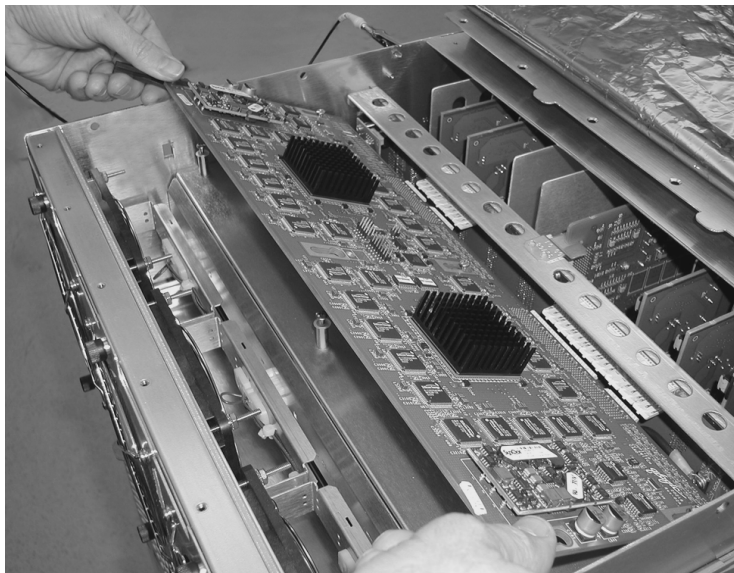

Figure 6-6. Installing a CC Blade
2. Remove the new CC blade from its packaging. Open both latches all the way. Holding the CC blade by the latches, place the blade in the switch. Center the blade key holes over the screws nearest the backplane, then lower the blade over the remaining screws as shown in Figure 6-6.